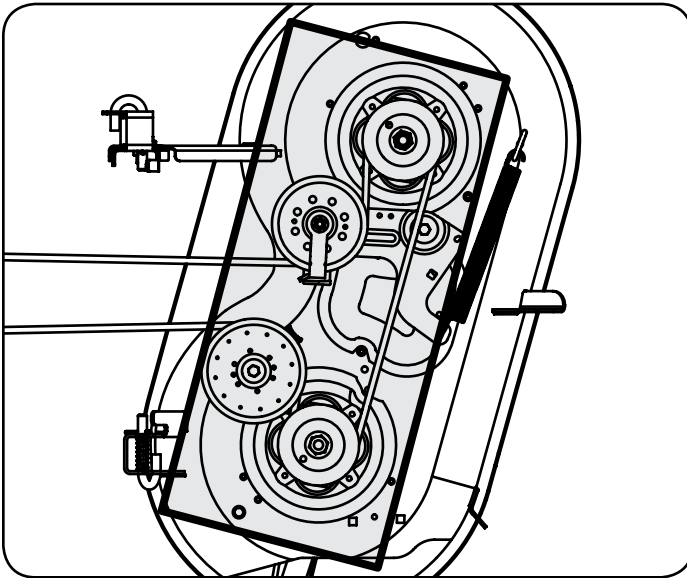

Figure 24
- Clean the top of the mower deck, under the spindle covers and belt area. See Figure 24.